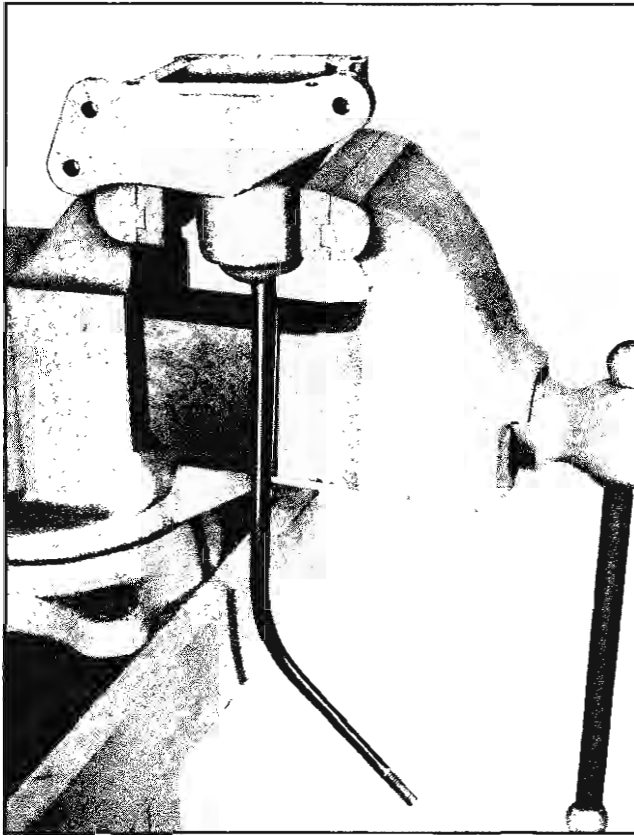

Fig. 7-10 Housing in Vise
4. Mount shift control in vise (Fig. 7-10).